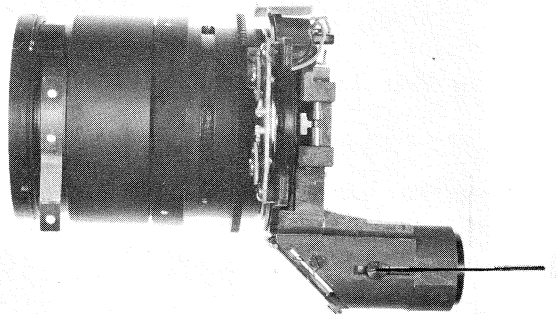

Fig. 33
- 5-4-1. Remove the finder cover and loosen the finder mask lens fixing screw (1 in Fig. 33).